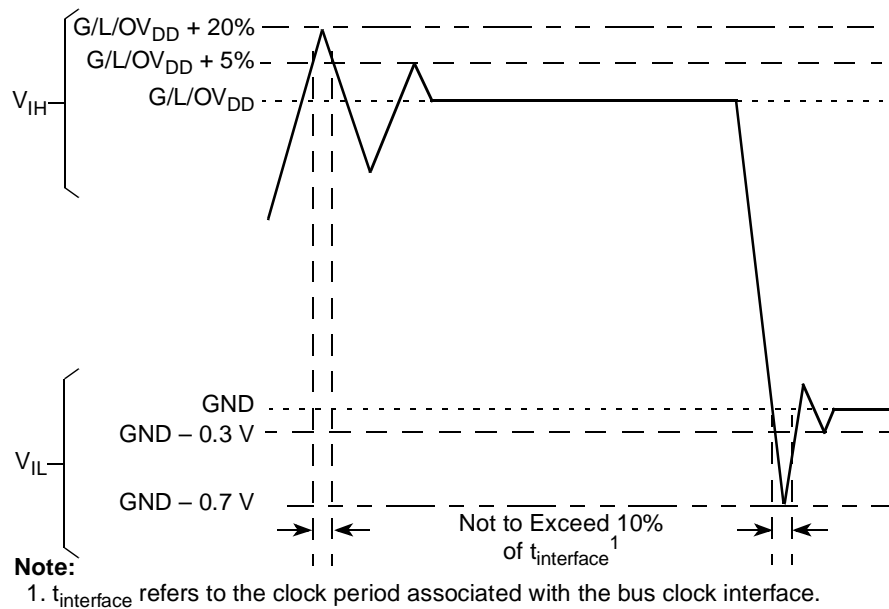

Figure 2. Overshoot/Undershoot Voltage for $GV_{DD}/OV_{DD}/LV_{DD}$
- ⁵ (M,L,O)V_{IN} and MV_{REF} may overshoot/undershoot to a voltage and for a maximum duration as shown in Figure 2.
Figure 2 shows the overshoot and undershoot voltages at the interfaces of the MPC8347EA.